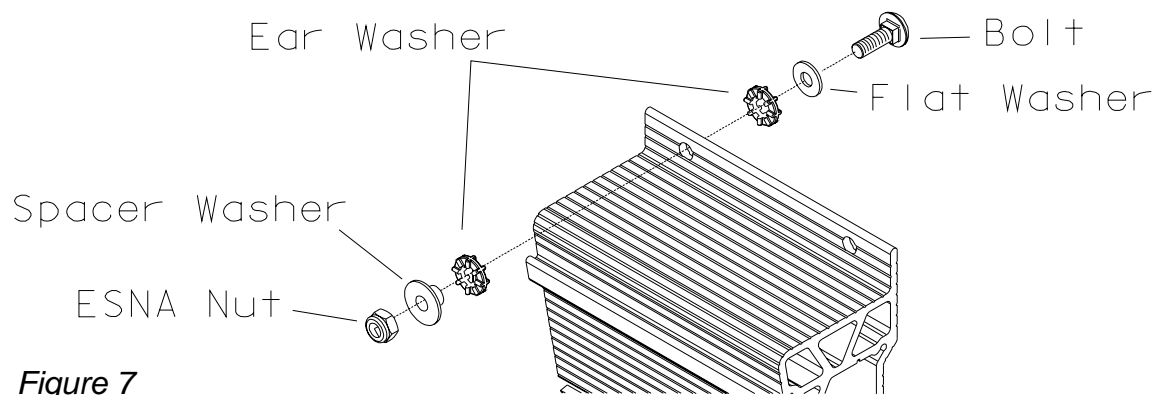

Figure 7
1. Pre-assemble hardware to the beam mounting block as shown in Figure 7. Use one (1) 5/16-18x1.0 inch carriage bolt, one (1) flat washer, two (2) flexible washers, one (1) spacer washer and one (1) ESNA nut in each of the four mounting holes.